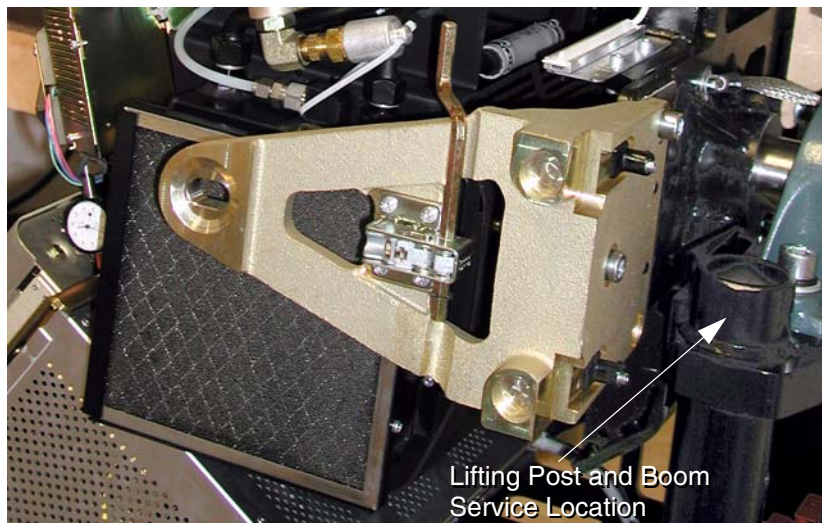

Figure 17 - Right Front Gantry Cover Mounting Bracket
- 2.) Remove the M12 screws from the right front gantry cover mounting bracket, remove and set aside the bracket. Reference Figure 17.
- 7.) Insert the lifting post, boom and chain hoist. Reference Figure 17.